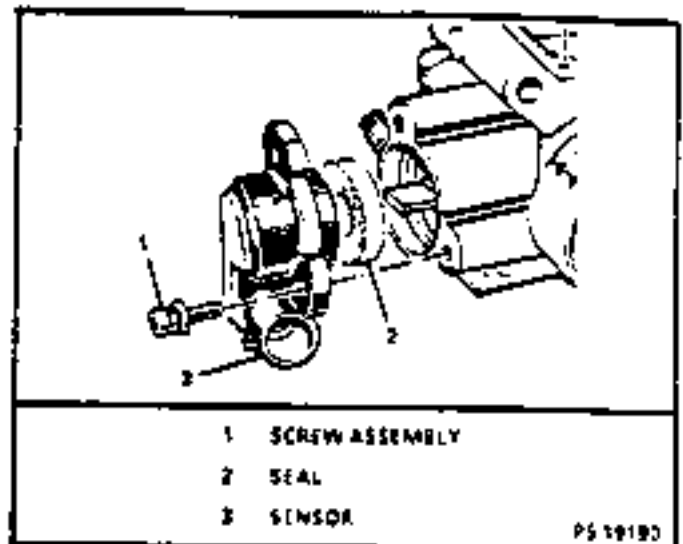

Figure 5 - Throttle Position (TP) Sensor
Figures 5 and 6
1. TP sensor seal over throttle shaft as shown in Figure 5